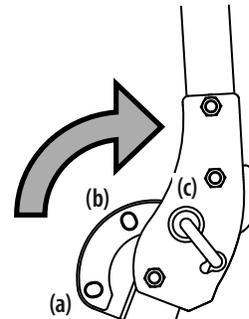

Figure 5
3. Move the ROPS into the desired position. See Figure 5.